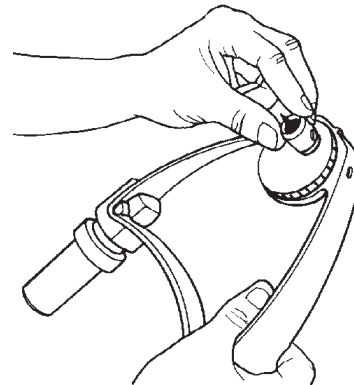

Figure C-73
87. Mount the cup center into the tailstock's adjustable center, as seen in Figure C-73, then mount the tailstock into the base mount (right side). Tighten the mount lock.